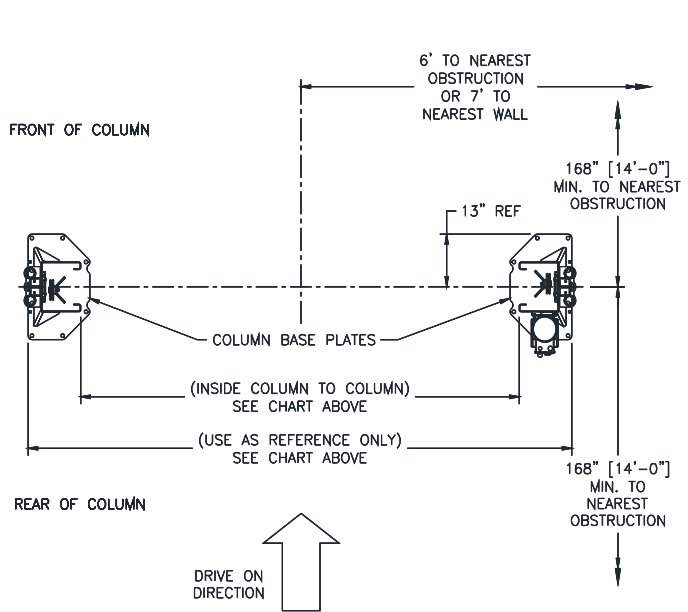

Fig. 1b - Service Bay Layout
- 5) Layout the service bay according to the architect's plans or owner's instructions (*see Fig. 1b*). **Failure to install in this orientation can result in personal and property damage.** Be certain that the proper conditions exist, see pg 3.